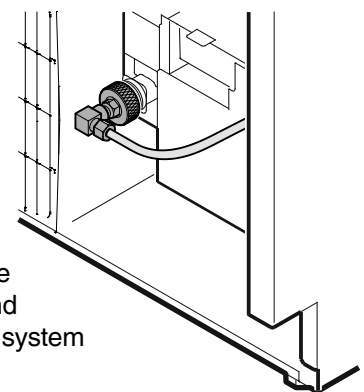

Figure 18
8. Screw the adapter onto the solenoid valve (Figure 18).